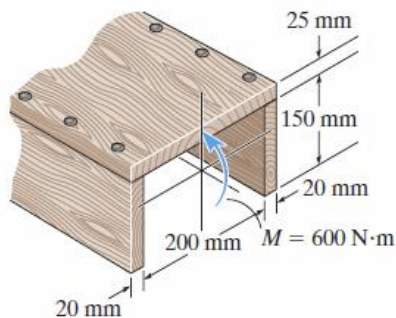

Fig. 6
6. The beam is made from three boards nailed together as shown in Fig. 6. If the moment acting on the cross section is  $M = 600 \text{ N}\cdot\text{m}$ , determine the maximum bending stress in the beam. Sketch a three-dimensional view of the stress distribution acting over the cross section.